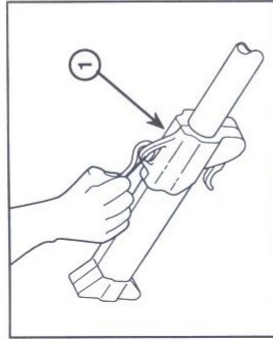

Fig. 6
- Snap the shoulder strap onto the loop. Refer to Fig. 5 or Fig. 6 to identify the type of loop on your unit. Adjust the length of the strap.